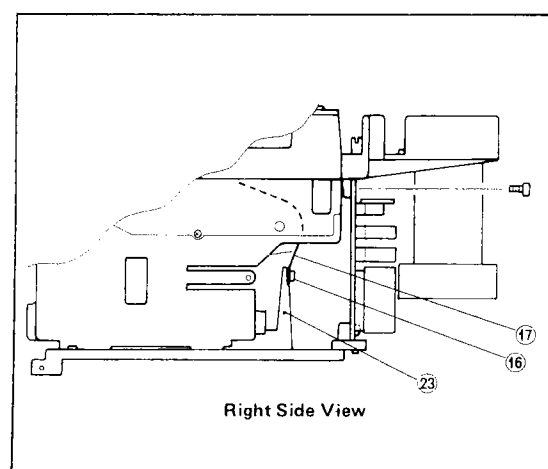

Figure 10-7. Roof Plate Removal.
- (3) Remove one screw (number 16) that fastens the roof plate (number 17) (see Figure 10-7).